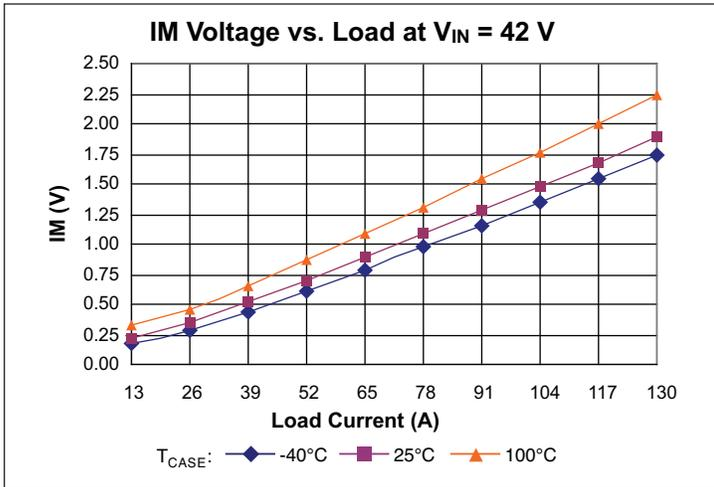

Figure 11 – IM voltage vs. load
**Current Monitor (IM)** pin provides a voltage proportional to the output current of the VTM. The voltage will vary between 0.206 V and 1.825 V over the output current range of the VTM (See Figures 11–13). The accuracy of the IM pin will be within 25% under all line and temperature conditions between 50% and 100% load. The accuracy of the pin can be improved using a predictive algorithm based on the input voltage and internal temperature.